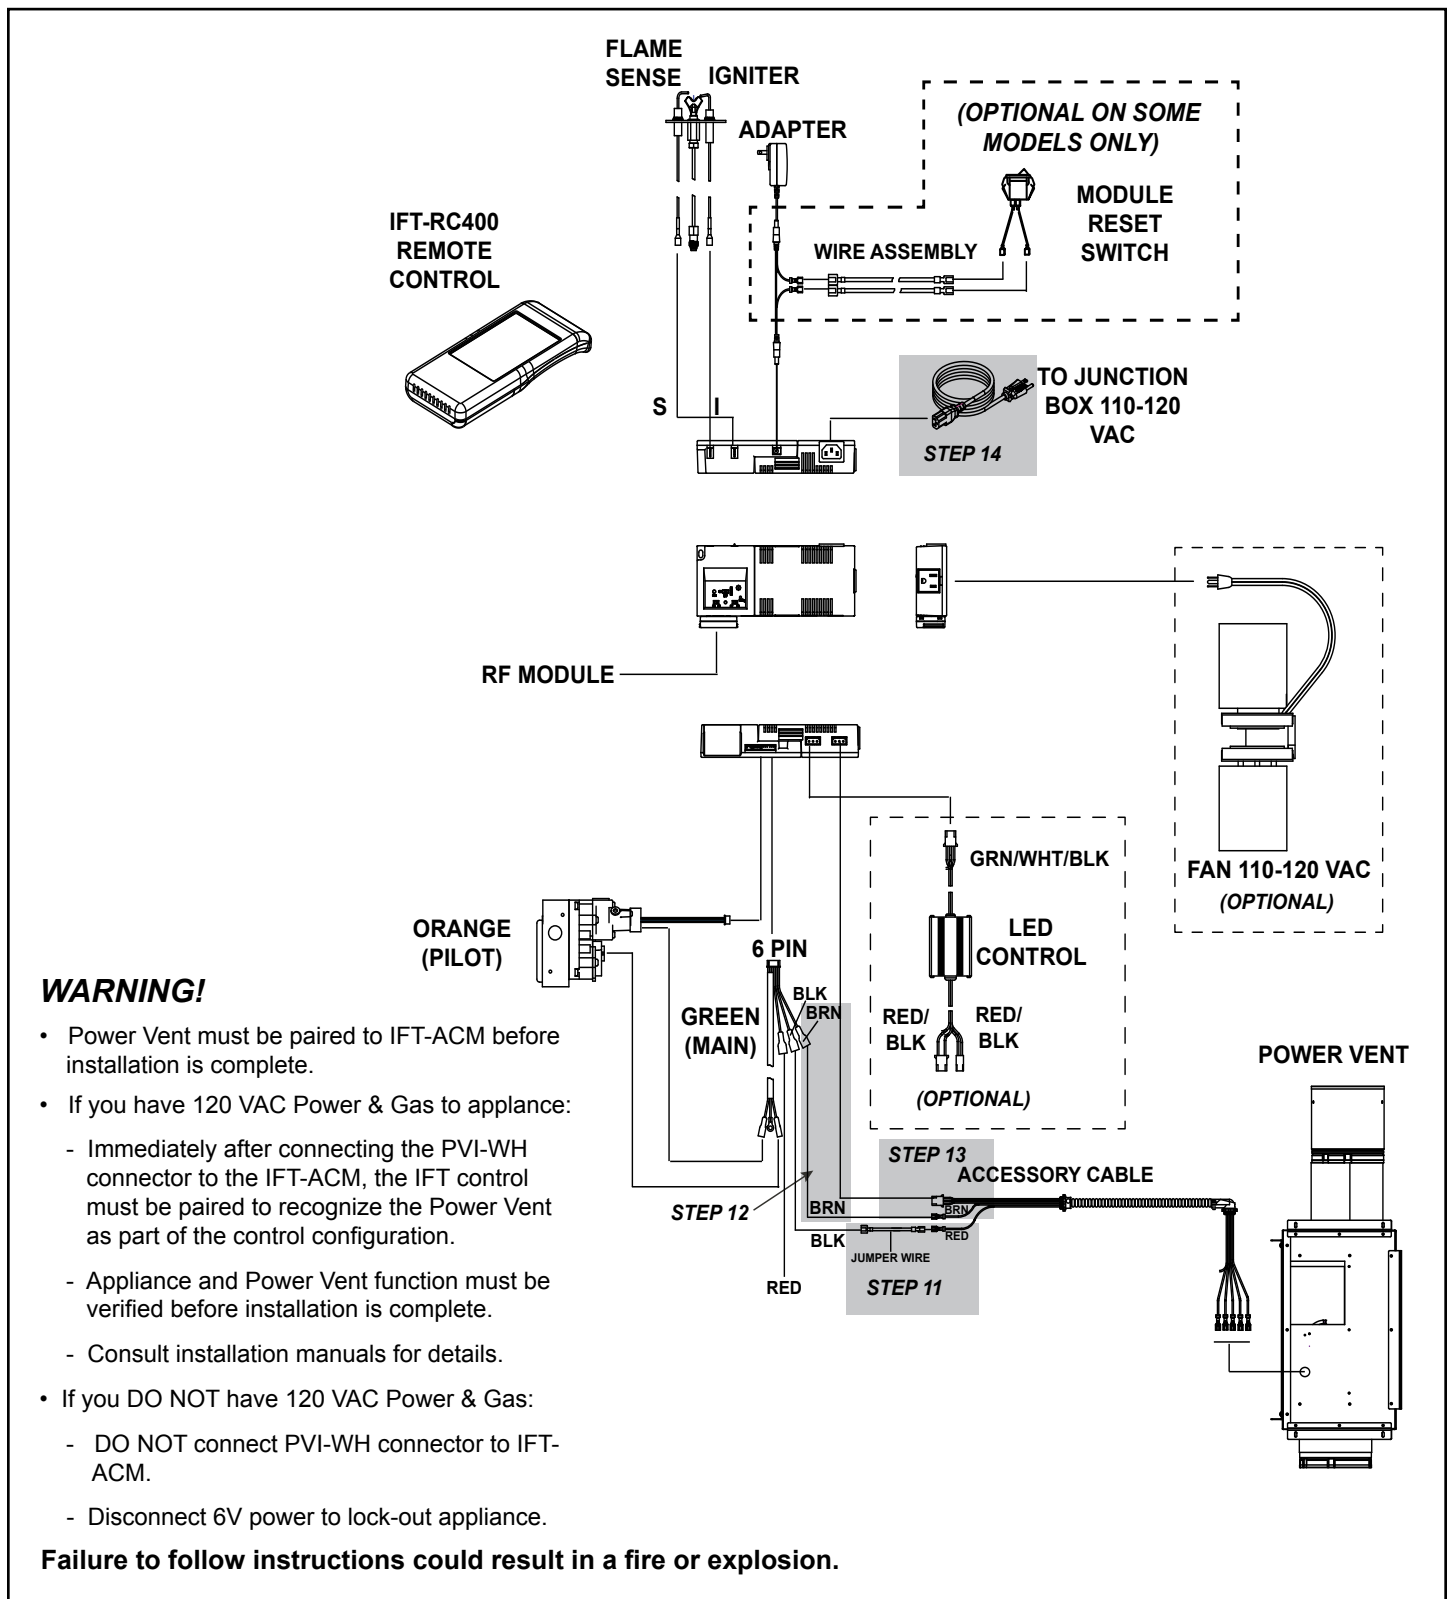

Figure 4.10. IFT-RC400 Wiring Diagram with Power Vent
10. Refer to wiring diagram with Power Vent to make remaining connections. See Figure 4.10.
11. Attach jumper wire included in manual bag of Power Vent between black wire on 6 pin harness and red wire on accessory cable. See Figure 4.10.
12. Attach brown wire from 6 pin harness to brown wire on accessory cable. See Figure 4.10.